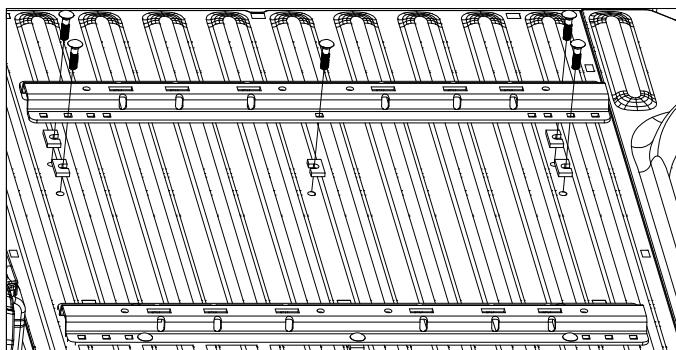

Figure C3: View looking into truck bed from rear of truck.
4. **Install the forward mounting rail.** Re-position the forward mounting rail over the drilled 9/16" holes in the bed. Install five 1/2" X 2" carriage bolts through the five drilled positions, as shown in Figure C3. Place a U-shaped spacer between the bed and the mounting rail at the five drilled positions.